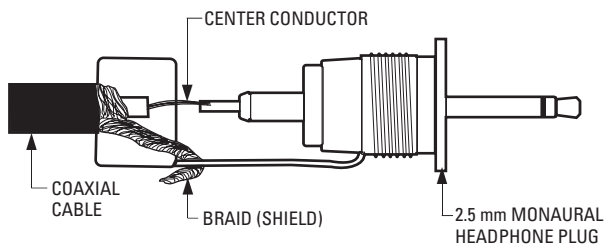

Figure 13. Connecting the Monaural Headphone Plug to the Coaxial Cable
2. Refer to Figure 13 and complete the following steps to attach the 2.5 mm monaural plug to the other end of the coaxial cable: